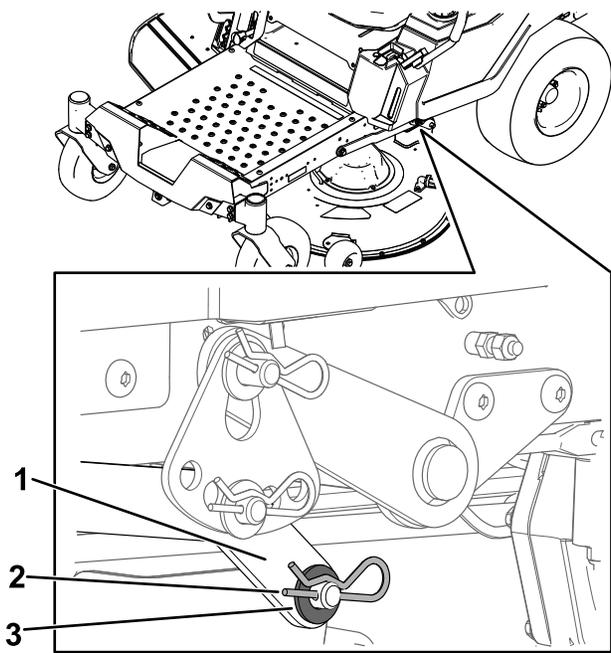

Figure 75
7. On 1 side of the machine, remove the washer and hairpin cotter from the deck pin (Figure 75).
8. Remove the lift arm from the deck pin (Figure 75).
5. On 1 side of the machine, lift the rear of the mower deck and install the lift arm to the deck pin (Figure 75).
6. Install the lift arm using the washer and hairpin cotter (Figure 75).